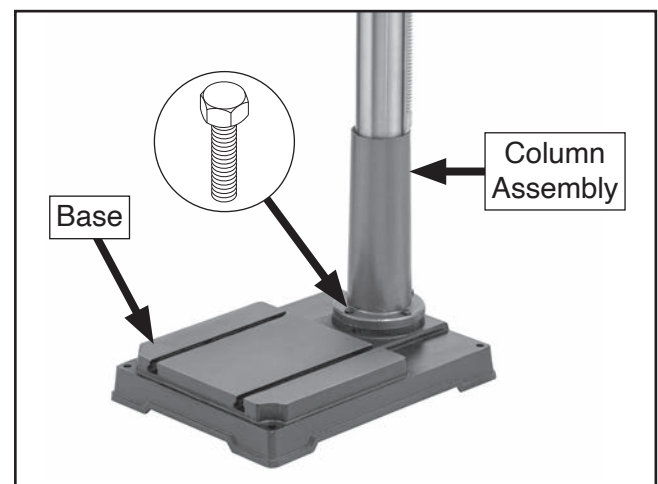

Figure 13. Column assembly attached to base.
1. Attach column assembly to base with M10-1.5 x 30 hex bolts (see **Figure 13**).